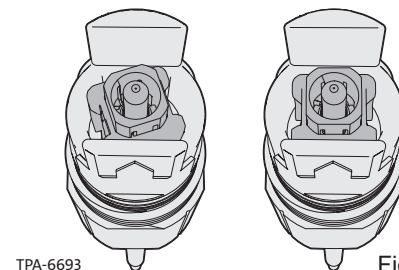

Figure 16
Step 3: After Step 2, the connector may not be perfectly aligned inside the converter body (Figure 16, Left). The flat sides of the connector should be parallel to the flat sides inside the converter. Unscrew the converter housing a fraction of a turn (approximately 5 degrees) until it is in the correct orientation (Figure 16, Right). Do NOT unscrew more than necessary.